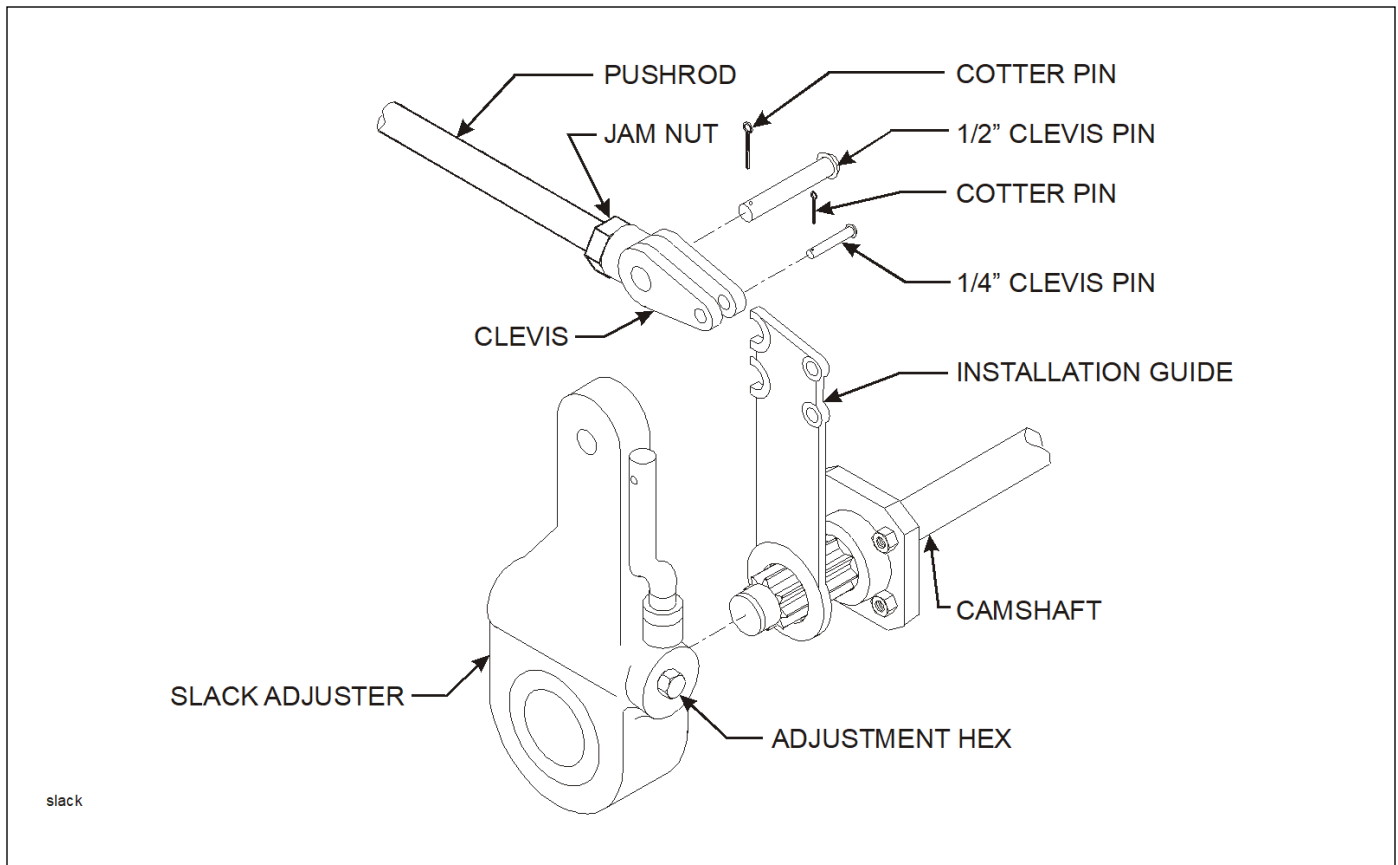

Figure 4-16: Slack Adjuster
4. Disconnect the slack adjuster from the connecting rod by removing the clevis pin (**See Figure 4-16.**)
4. Remount the brake chamber on the axle brackets and reconnect the air service hoses and the slack adjuster connecting rod (**See Figure 4-16.**)
2. Check that the push rod is fully retracted, apply air to release spring brake (**See Figure 4-16.**)
3. Remove the existing slack adjuster and clevis - **DO NOT REMOVE EXISTING JAM NUT (See Figure 4-16.)**